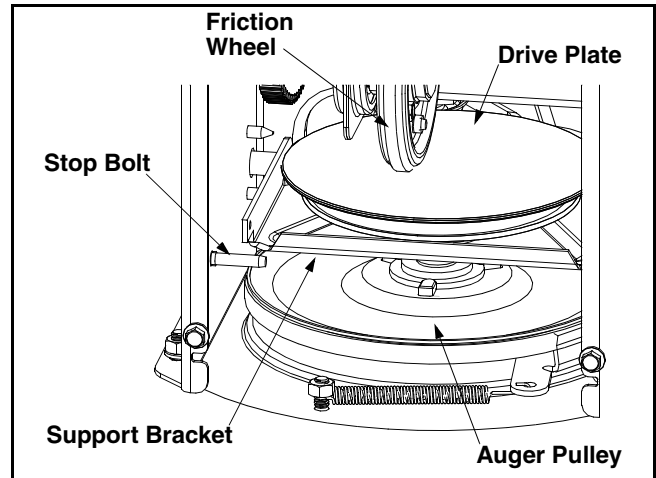

Figure 19
- Back out the stop bolt until the support bracket rests on the auger pulley. See Figure 19.
NOTE: The support bracket must rest on the stop bolt after the new belt has been assembled. See Figure 19.